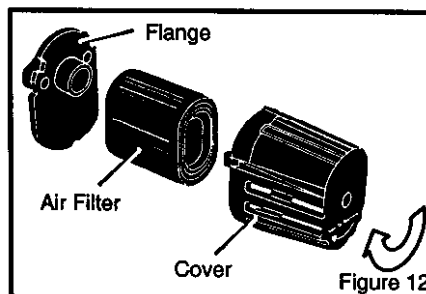

Figure 12
2. Turn the cover clockwise as shown in Figure 12. Remove the cover and the air filter.